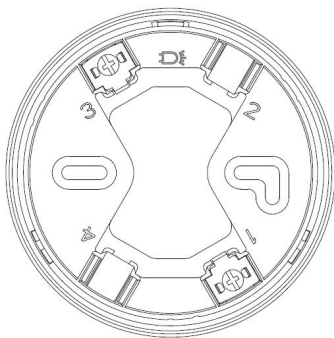

Fig.2
5.1 Schematic diagram of supporting mounting base (DZ-A16), as shown in Fig. 2: